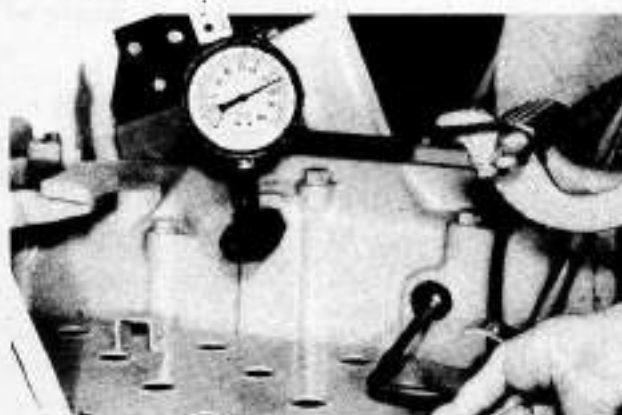

Fig. 169—View showing gage placement for adjusting planetary brake bands and location of adjustment screw for front planetary brake bands.
**301. PLANETARY BRAKE BAND ADJUSTMENT.** Planetary brake bands provide braking on over-run and wear will be indicated by delay in shifting down or failure to hold in gear. Brake bands may be adjusted, if not worn beyond limits of adjustment. It may be necessary to adjust planetary brake springs, as outlined in paragraph 300, before planetary brake bands are adjusted to make up for brake band wear. Transmission fluid must be at normal operating temperature, 40-50° C (104-122° F) and engine off. Remove plugs from transmission cover, special plug (6—Fig. 151) from control valve and install gage manifold (CAS-1242) and a 0-690 kPa (0-100 psi) gage in control valve. See Fig. 169.
**305. SETTING CONTROL VALVE PRESSURE.** Reinstall control valve and reassemble tractor leaving power shift lever assembly off at this time. Remove plug and install gage manifold (CAS-1242) and 0-690 kPa (0-100 psi) gage. See Fig. 169. Start engine and bring